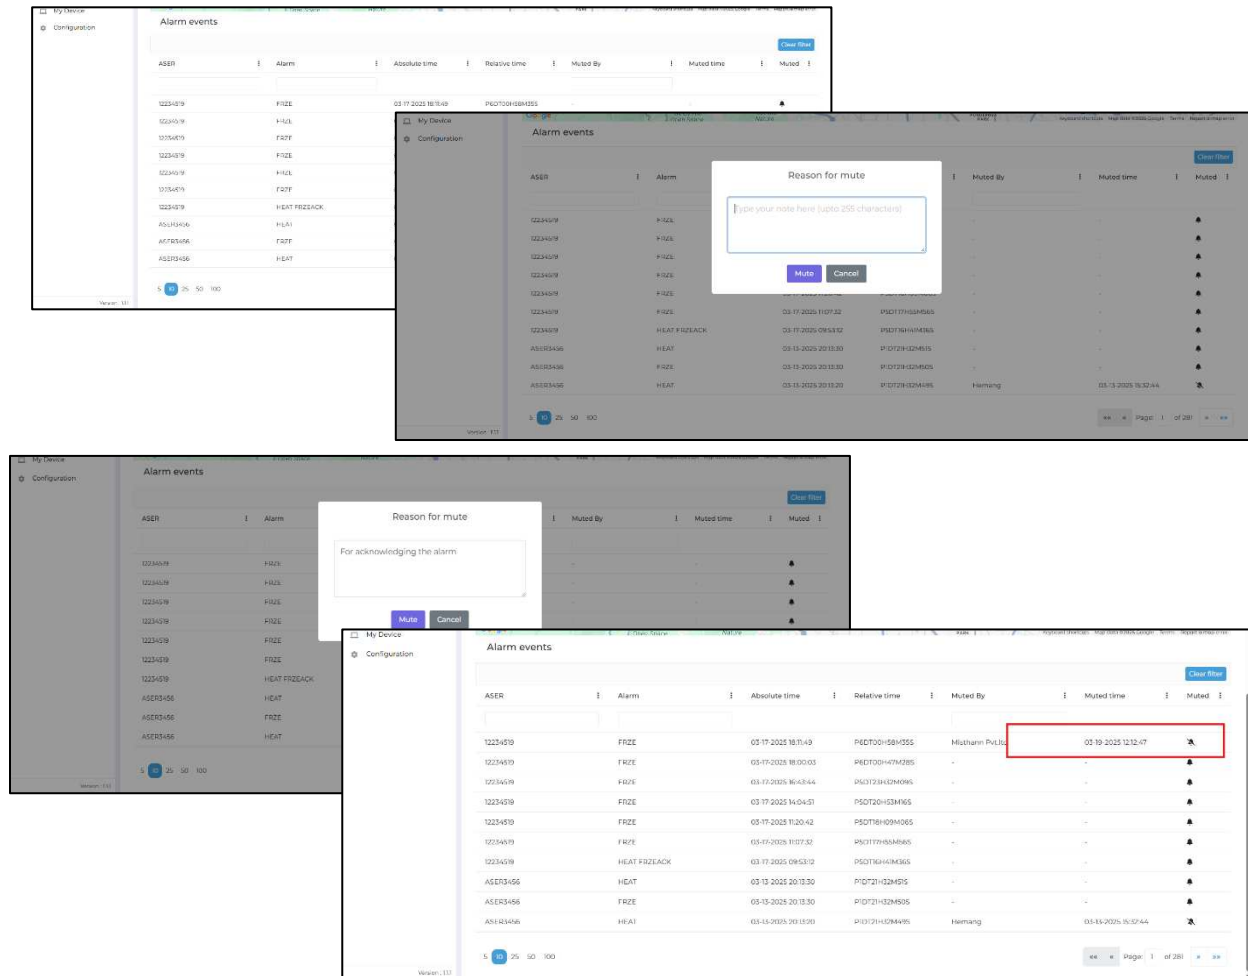

Figure 61 Alarm Muting Remotely for selected device
- To mute the alarm for a specific device, click on the Bell icon provide adjacent to the device row as shown in the figure 61.